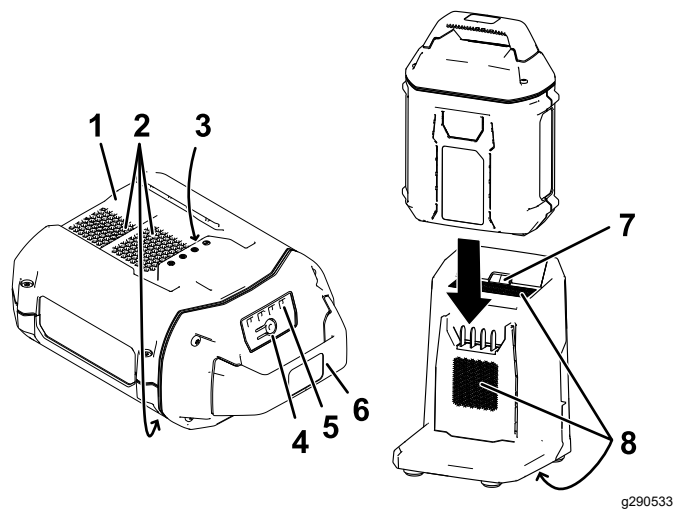

Figure 16
2. Line up the cavity in the battery pack (Figure 16) with the tongue on the charger.
3. Slide the battery pack into the charger until it is fully seated (Figure 16).